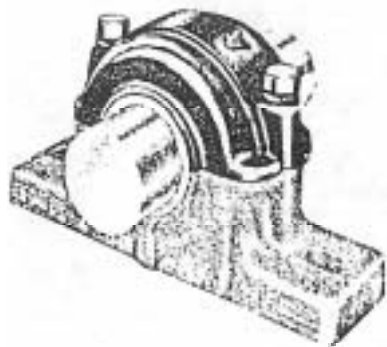

Fig. 15. Upper Half of Housing
**Step #11. (Fig. 15) Upper Half of Housing (CAP)** The bearing seat in the upper half of the housing (cap) should be checked for burrs, thoroughly cleaned, oiled and placed over the bearing. Especially with oil lubrication, use of a sealing compound must be applied sparingly. Wipe a thin film near the outer edges. Excessive amounts are forced not only out but also in between the housing bore and bearing O D and this can pinch an outer ring or make a free bearing actually held. The two dowel pins will align the upper half of the housing.
**Step #10 (Fig. 15) Upper Half of Housing (CAP)**
**Step #9. (Fig. 15) Upper Half of Housing (CAP)** The bearing seat in the upper half of the housing (cap) should be checked for burrs, thoroughly cleaned, oiled and laced over the bearing. Especially with oil lubrication, use if a sealing compound such as Permatex No. 2 at the split surfaces is helpful. Sealing compound must be applied sparingly wipe a thin film near the outer edges. Excessive mounts are forced not only out but also in between the housing bore and bearing O D and this can pinch an outer ring or make a free bearing actually held. The two dowel pins will align the upper half of the housing.